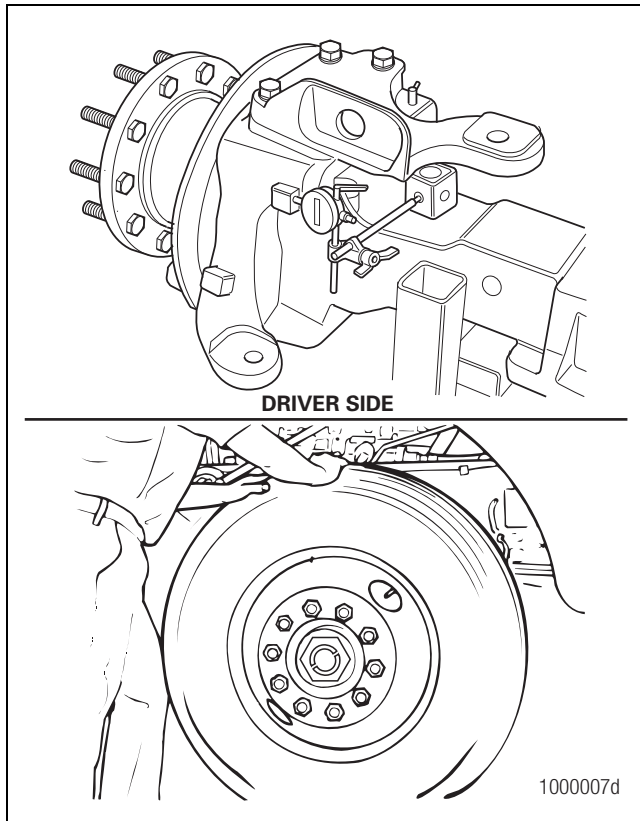

Figure 5.7
3. Check the upper king pin bushing for wear. Install the base of a dial indicator onto the axle beam. Place the indicator tip against the side of the knuckle top, curbside or against the king pin cap, driver side. Figure 5.7.
- **If the dial indicator moves a total of 0.010-inch (0.254 mm):** The upper bushing is worn or damaged. Replace both bushings in the knuckle. Refer to the appropriate maintenance manual for complete service information. Figure 5.7.